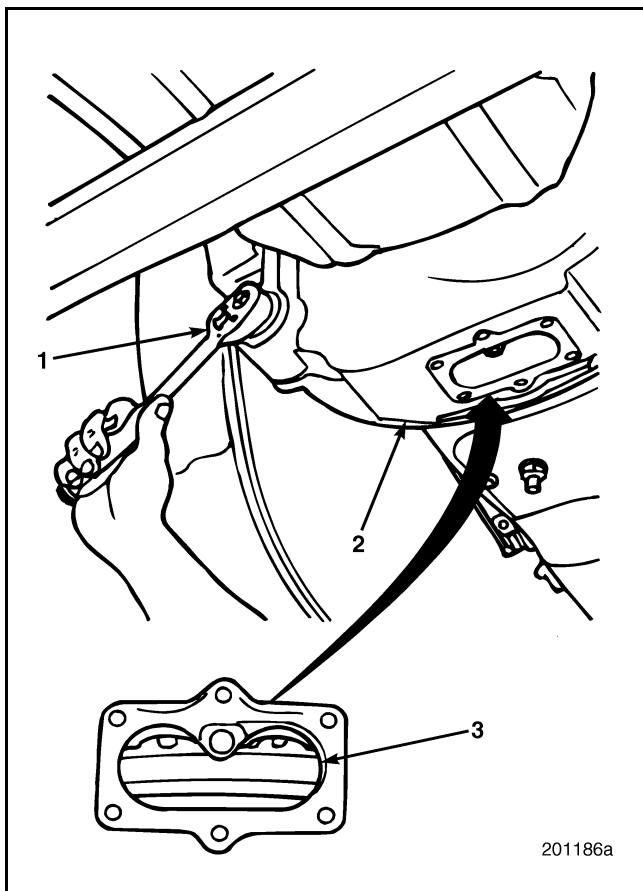

Figure 332 — Engine Crankshaft Rotation
- Using the barring socket, manually rotate the engine crankshaft (Figure 332) in normal rotation direction 120 degrees until the center of the timing pointer hole in flywheel housing aligns with the "2 & 5" mark on the flywheel and the No. 5 piston is on the compression stroke.